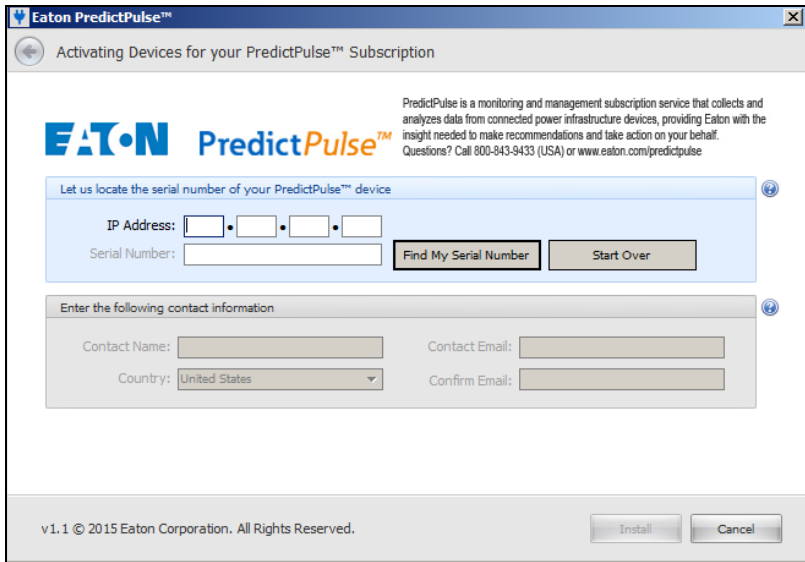

Figure 12. Registering a PredictPulse Subscription
2. Double-click the downloaded **Activate PredictPulse.exe** icon. The PredictPulse registration window opens (see Figure 12).